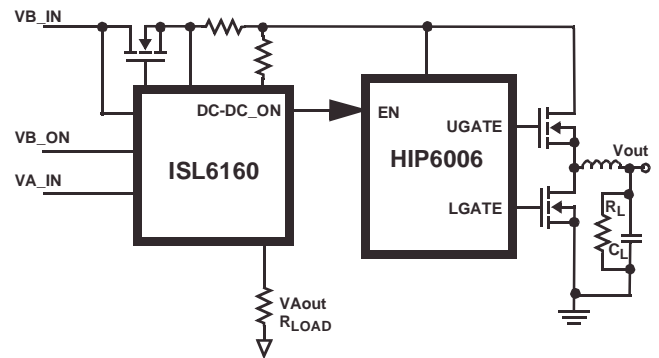
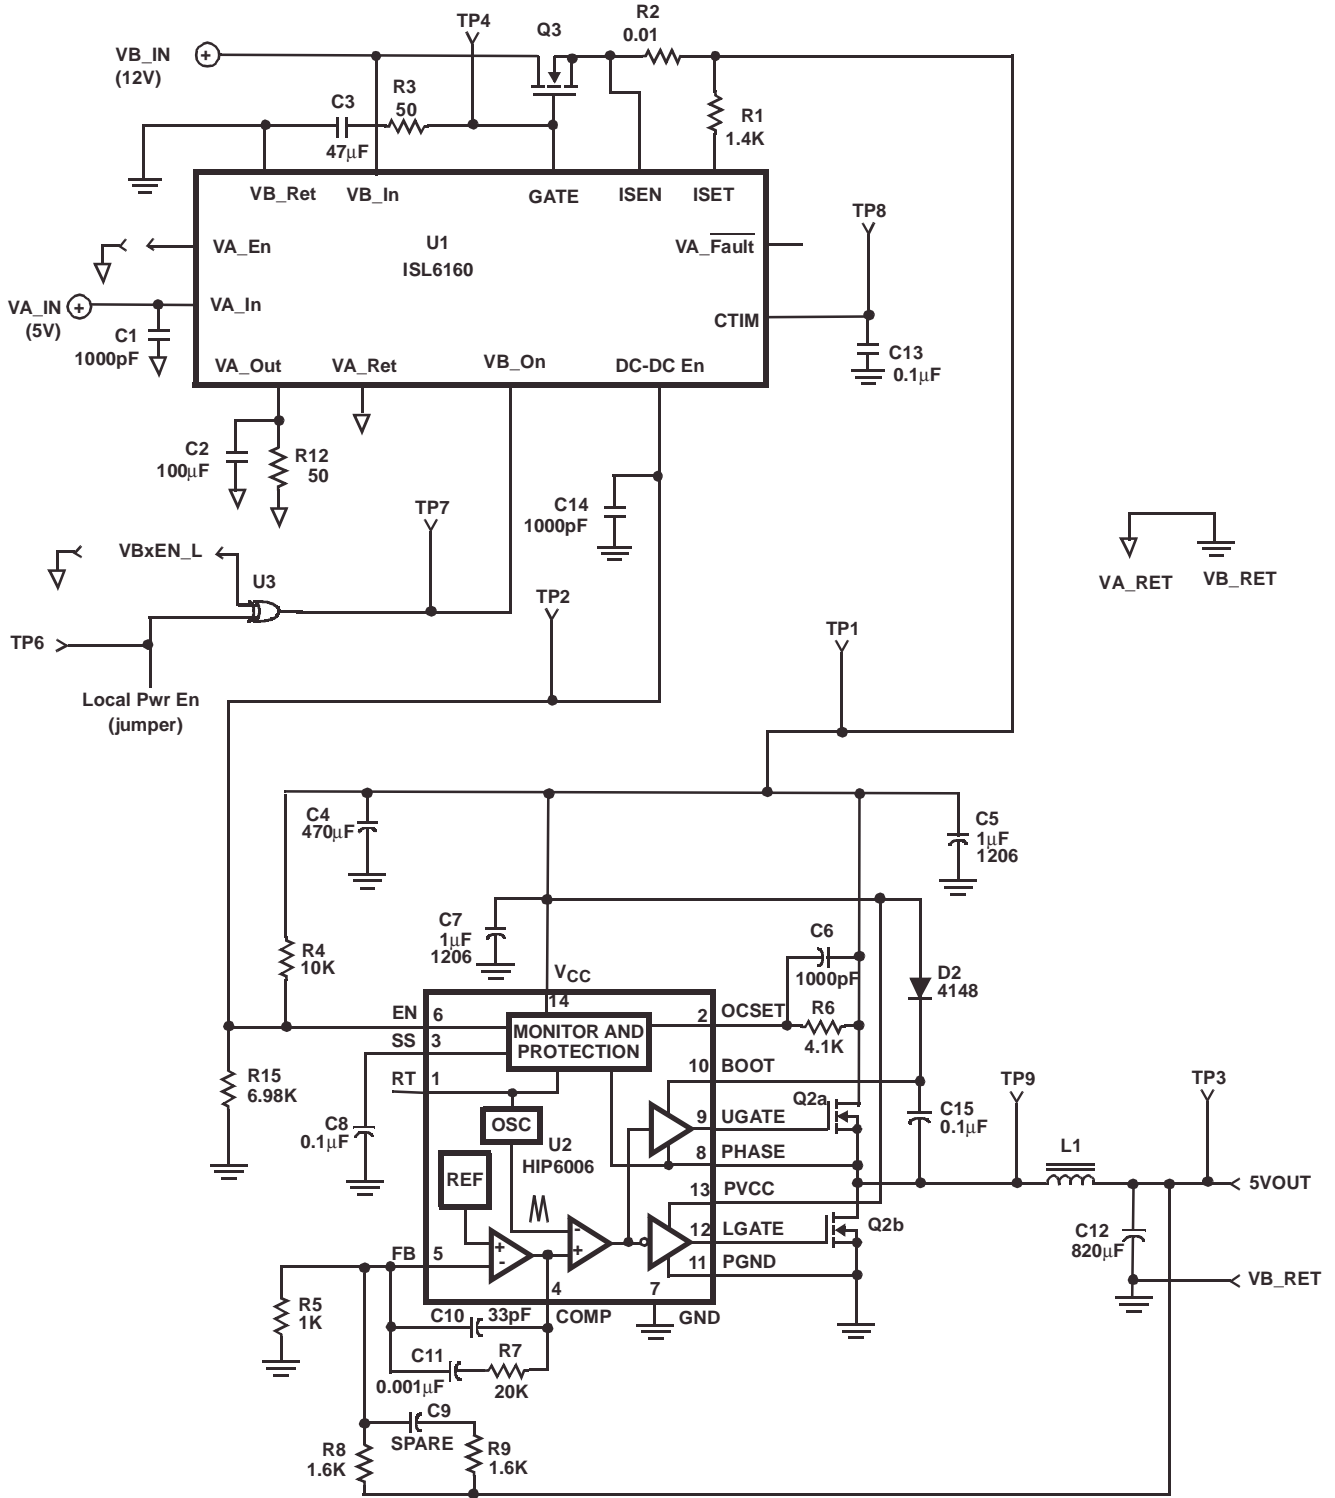

FIGURE 1. ISL6160EVAL2 BLOCK DIAGRAM
FIGURE 11. ISL6160EVAL2 SCHEMATIC
Intersil also provides the ISL6160EVAL2 concept evaluation platform. The ISL6160EVAL2 is a complete InfiniBand Class I (non isolated) power topology evaluation platform which highlights the operation of the ISL6160 and the HIP6006 single output PWM controller. See Figure 1 for a simplified block diagram of the ISL6160EVAL2 platform. This evaluation platform allows the InfiniBand Module (IM) power supply designer to evaluate the concept of this design and apply this concept to a specific IM power requirement. The evaluation platform is configured for 5V  $V_{out}$  and 3.5A max lout capability where it exhibits an efficiency of 85%, all in a small 1.6 sq" area. See Figure 11 for a complete ISL6160EVAL2 schematic.
The HIP6006 has a loss less overcurrent (OC) protection feature. This is accomplished via the current-sense function of the HIP600x family. The HIP6006 senses converter load current by monitoring the drop across the upper MOSFET (Q2a in the Figure 11 schematic) enhancing the converter's efficiency and reducing cost by eliminating a current sensing resistor.